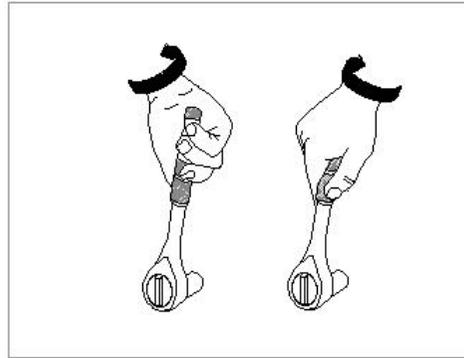

Fig 2.0.
2. To remove a nut or bolt swing the handle until you can twist to remove the fastener much more quickly. The twist action has a 4 to 1 torque advantage so you can usually start using it after the minimum number of swings. See figs 2.0. & 3.0.